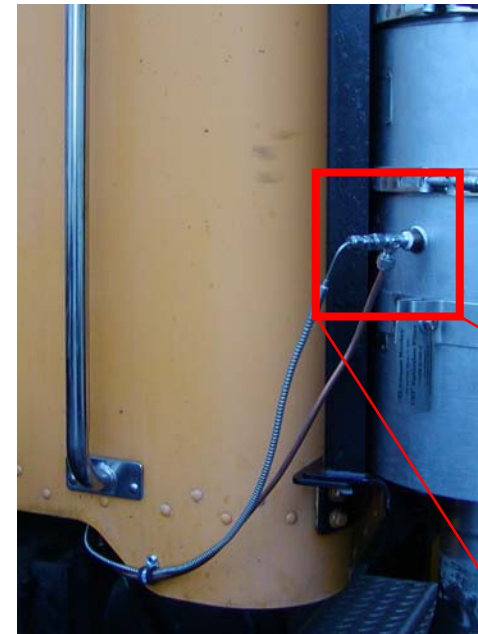

Figure 2: Connections at CRT / CCRT Inlet
- ◆ Select a location for the CRTdm that meets the above criteria. Use the four mounting holes on the CRTdm as a template to mark four (4) points and drill four (4) 9/32" holes. Attach the CRTdm using the self-tapping screws and washers supplied with in the CRTdm Kit.
- ◆ Every CRT / CCRT is fitted with a 1/4 inch female NPT boss (Figure 2), that will accept the fittings identified in the CRTdm installation kit. Before any fittings are installed on the CRT / CCRT system, the location of the boss must be accessible so that the thermocouple can be easily inserted into the Tee fitting. If the boss is not accessible, the CRT / CCRT inlet head should be rotated until the boss is accessible.